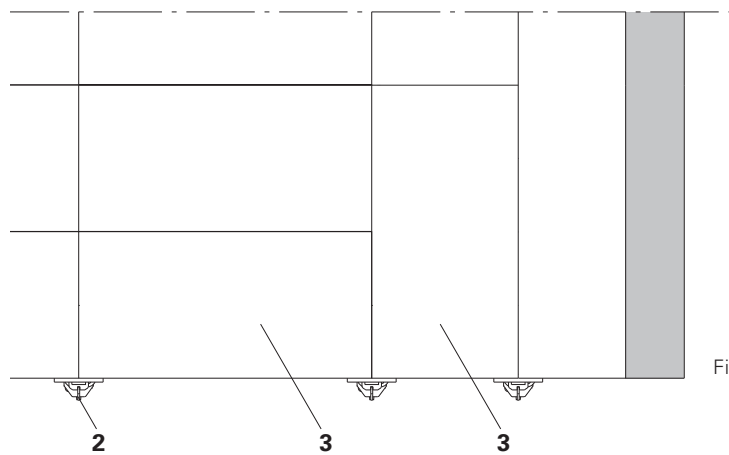
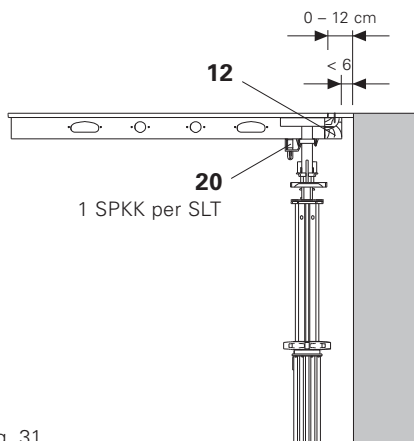

Fig. 30a
Fig. 31
1. Continue forming with prop, Main Beam SLT 225 (2) and Panel (3).
2. Install panel (3) crosswise. (Fig. 30a)
- Drophead SFK (1)
- square-shaped timbers (12) are securely nailed before elements are assembled.
- Edge Beam SRT (9) or
- nail on Filler Timber SPH (11) before elements are assembled.
- 21 mm formlining provided by the contractor, additional prop with cross-head and formwork girder (15). Panel Wedge Clip SPKK (20). (Fig. 31 - 33)